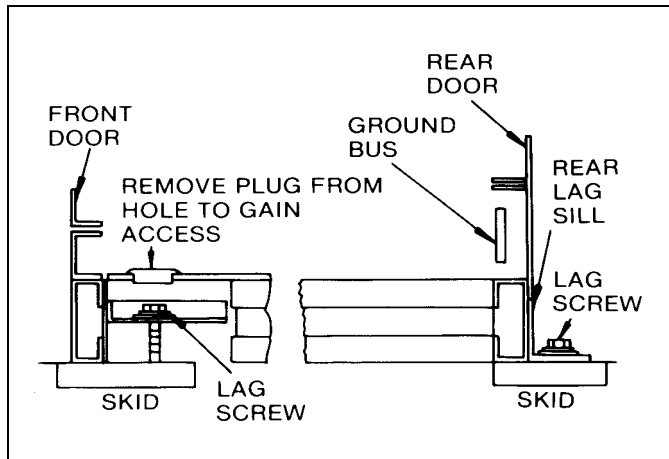

Fig. 4-5. View showing method of attaching equipment to shipping skids
2. REMOVE THE SHIPPING SKIDS-The equipment is fastened to the shipping skids with 3/8-3 lag screws through the equipment anchoring holes. See Fig. 4-5.